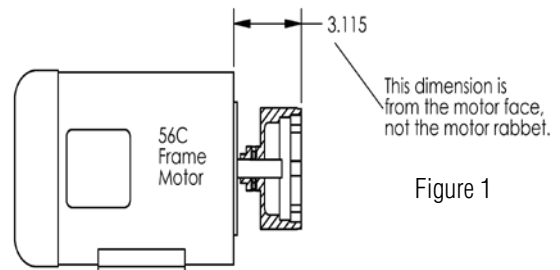

Figure 1
2. Slide drive magnet assembly (item 6) onto the motor shaft until it is between 3.110" and 3.120" as measured from the motor face to the top of the drive magnet assembly. See Figure 1. Align set screw (item 6B) with flat or key slot on the motor shaft and tighten both set screws with a 5/32" Allen wrench to 70 in.-lbs. (7.9 N-m).